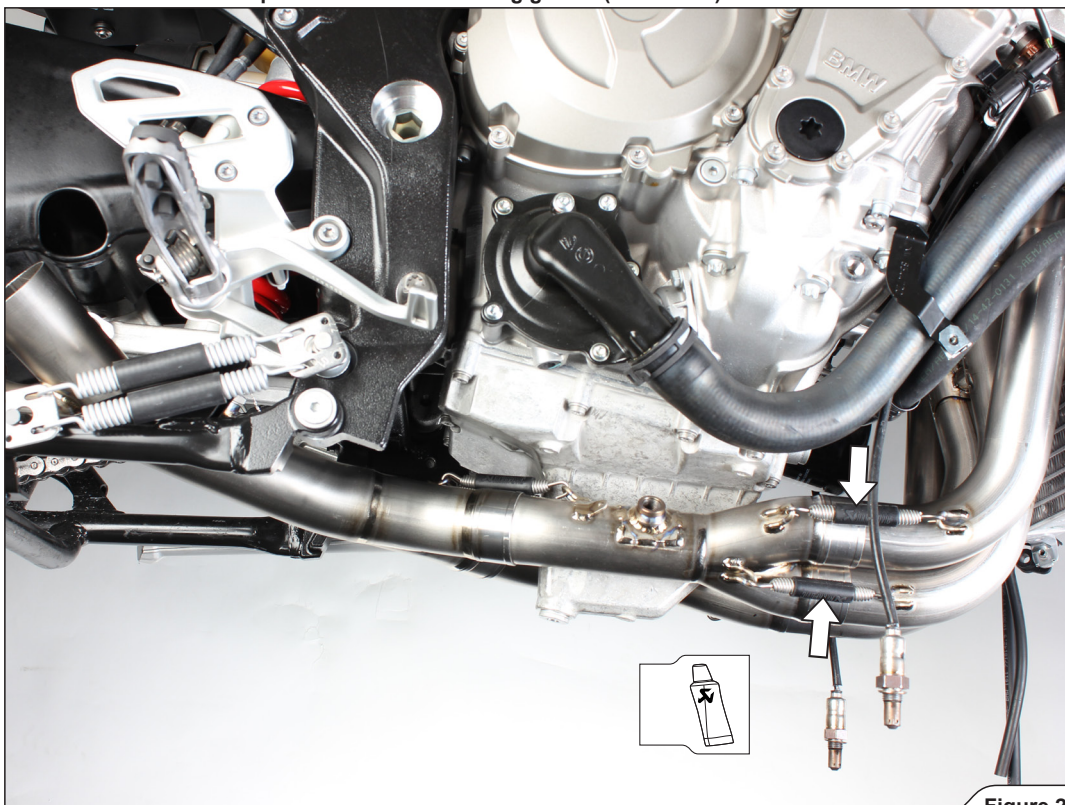

Figure 26
4. Slide the assembled collectors/link pipe onto the header tubes and attach the springs (Figure 26).